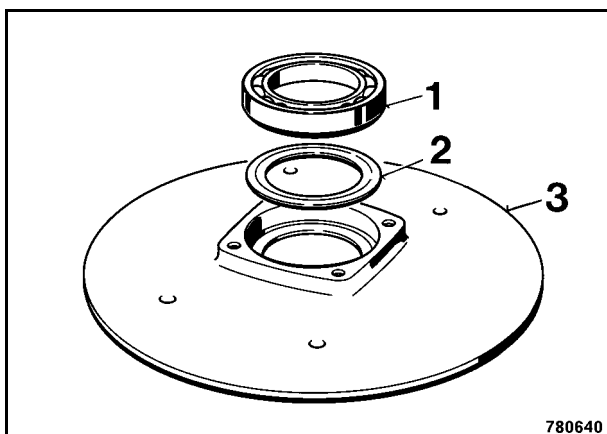

Fig. 9
14. Knock the grooved ball bearing 1 (Fig. 9) out of the bearing plate (3).
15. Remove the Nilos ring (2).